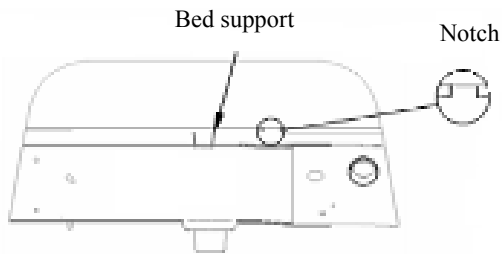
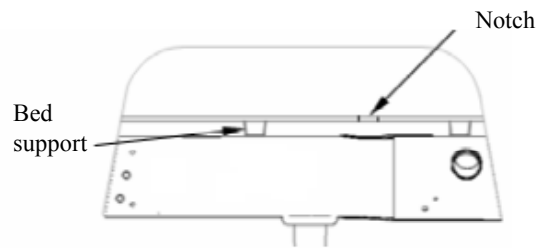

Figure 4a
Figure 4b
- 6b. **Placing Cross Members Between Bed And Frame, Method 2: Notching the Side Flange.** From the passenger's side wheel well, notch the sheet metal flange as shown in Figure 4a for 6' beds and Figure 4b for 8' beds. After notching, the cut steel surfaces should be touched up with paint to prevent rusting.